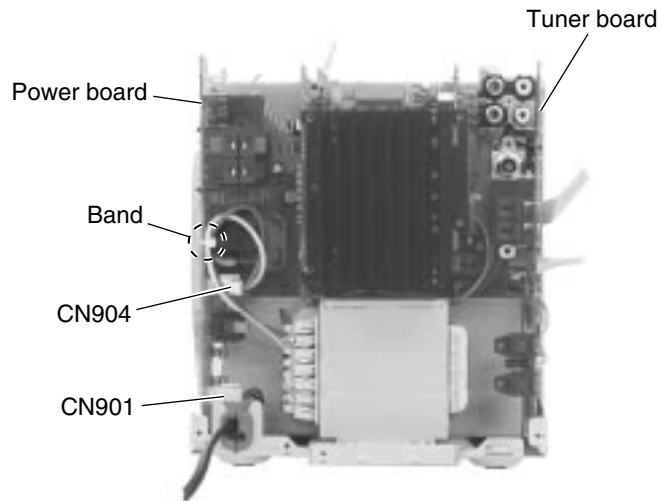

Fig.14
■ **Removing the power board (See Fig.14 and 15)**